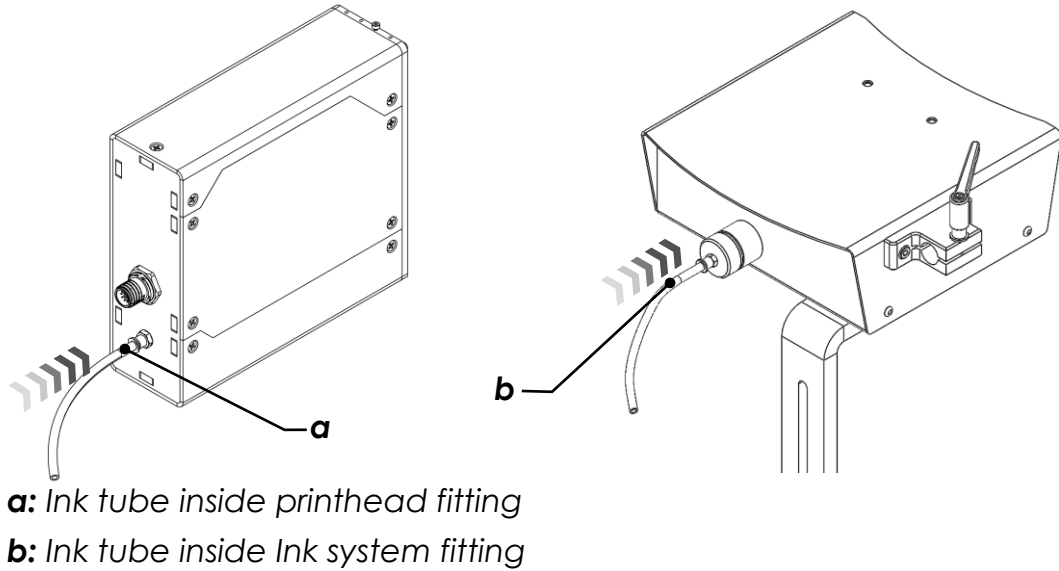

Figure 13
- Insert one end of the ink supply tube in the fitting located at the back of the printhead and press firmly into place (see Figure 13).